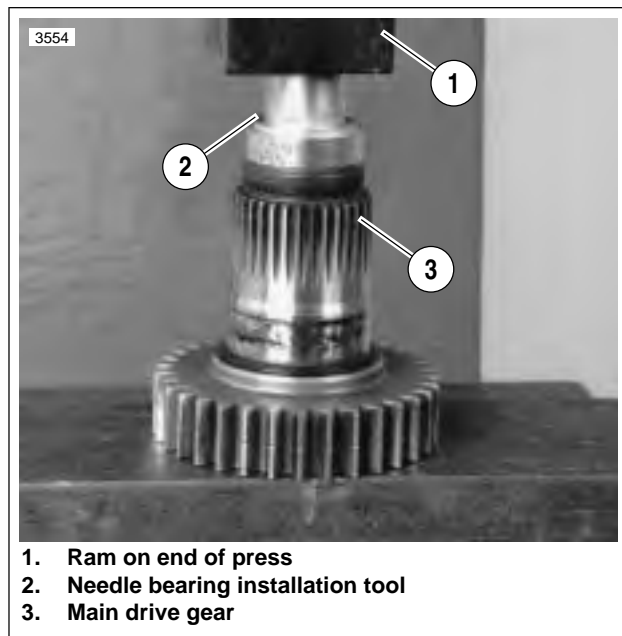

Figure 6-40. Needle Bearing Installation Tool
- See Figure 6-40. Use INNER/OUTER MAIN DRIVE GEAR NEEDLE BEARING INSTALLATION TOOL (Part No. HD-37842-A) for assembly. Select which end of tool to use.